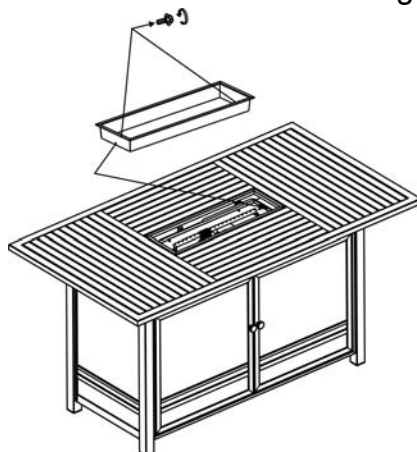

Figure 11
12. Place the burner pan protective ring into the firepan/burner assembly as shown in Figure 11. Align the holes in the burner pan protective ring with the pre-drilled holes on the firepan/burner assembly. Secure the burner pan protective ring to the firepan/burner assembly by using the three M4 screws as shown in Figure 11.